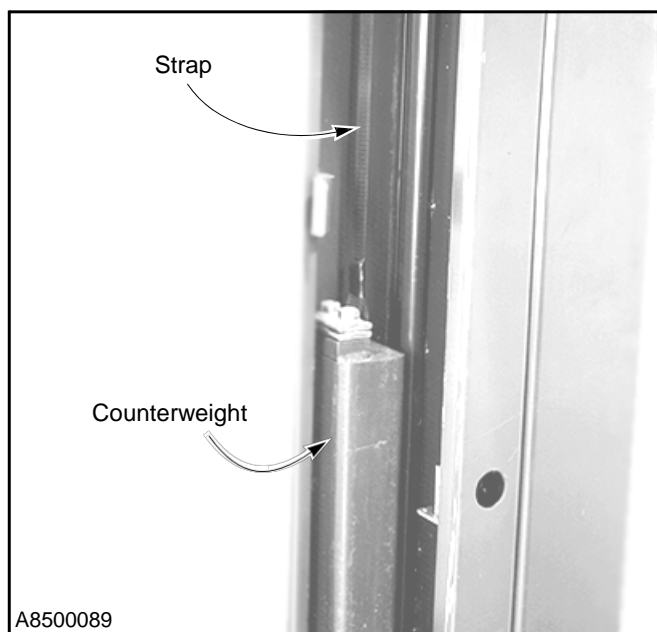

Figure 18
2. Inspect both counterweight straps for tears and frayed edges. Also inspect each strap for abrasions that might indicate a seized pulley or misaligned drum roll. (See Figure 18)